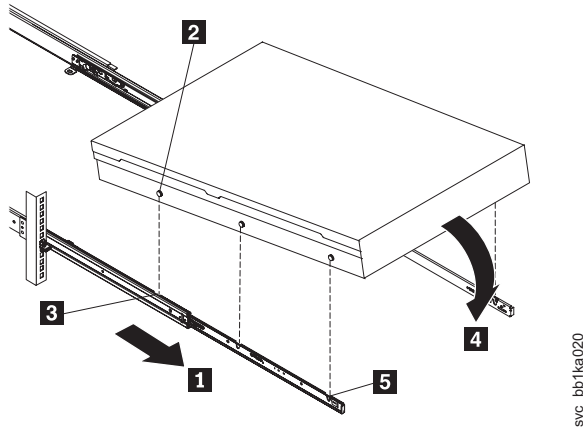

Figure 40. Installing the SAN Volume Controller 2145-CF8 node in the slide rails of the rack
- a. Pull the slide rails forward ( **1** in Figure 40 on page 51) until they click twice into place.